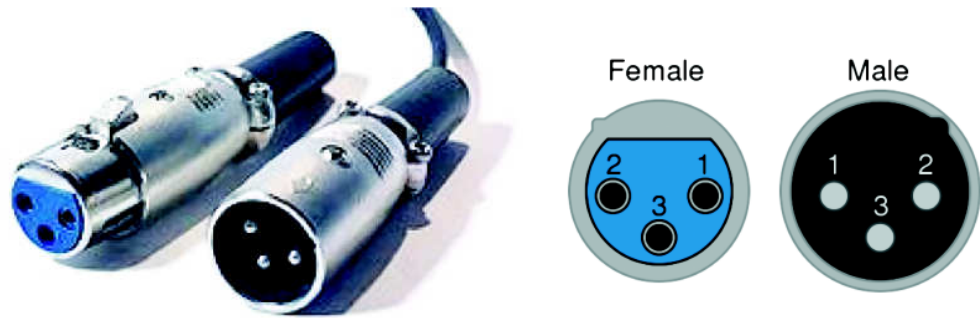

Figure 20.3 (A): 3-Pin XLR cable connectors **Figure 20.3 (B):** 3-Pin XLR chassis connectors
As shown in Figure 20.3 (A) and (B), XLR connectors are available in male and female versions in both cable and chassis mounting designs, comprising a total of four styles. A special feature with XLR type of connector is that the ground connection is established before the signal lines are connected. The pin details of a 3-pin XLR connector are given below: